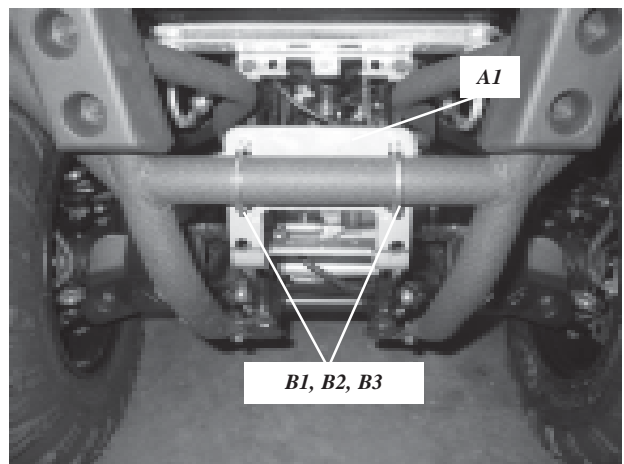

Figure 3: Install Winch Mounting Plate
3. Place winch mounting plate (A1) on top of frame mounting tabs. Attach front of mounting plate to grab bar using two, 1/4-20 x 1.5 x 2.13 u-bolts (B1); four, 1/4" flat washers (B2) and four, 1/4-20 lock nuts (B3). Do not tighten at this time. See figure 3.